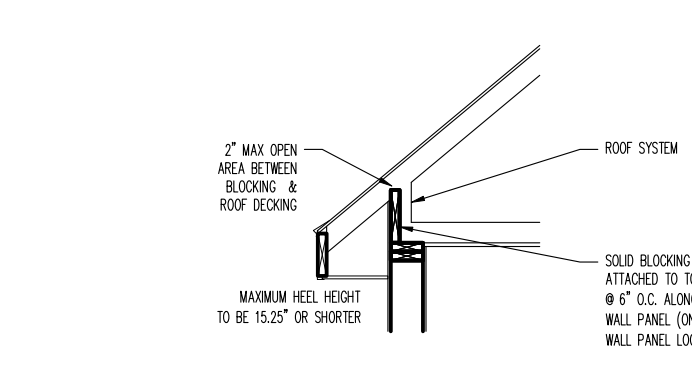

FIGURE 3
8. (PERPENDICULAR WALL/ROOF) APPLY 2X SOLID BLOCKING BETWEEN ROOF SYSTEM MEMBERS OVER BRACED WALL PANELS W/ 8d NAILS AT 6" O.C. ALONG LENGTH OF BRACED WALL PANELS WHEN HEEL IS 15.25' OR LESS (FIGURE 3, REFER TO FIG. #4 WHEN OVER 15.25').